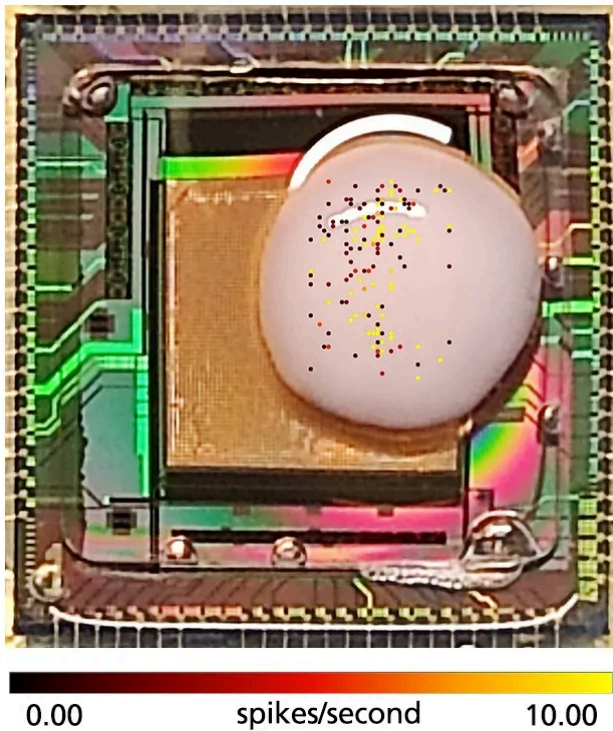

Figure 1. STEMdiff™ Cerebral Organoid Activity Can Be Measured on 3D High-Density Multi-Electrode Array Chip
- 3 Remove the CorePlate™ 1W Cap from the chip. Using a 1 mL cut pipette tip, gently collect the organoid from the 6 cm culture dish and place it on top of the chip's recording area (see Figure 1).
- 4 Without disturbing the organoid, use a smaller-bore pipette tip (e.g. a 200 μ L pipette tip) to remove as much recording medium as possible until the surface of the chip is completely dry (see Figure 1).